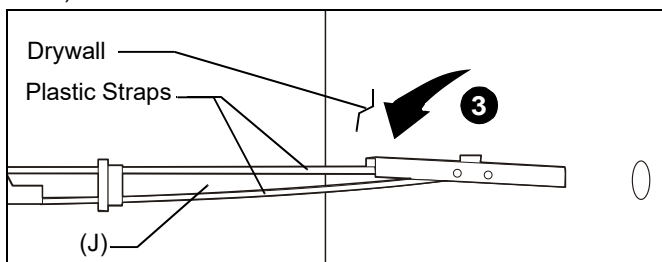

Figure 2
3. Hold metal channel on 1/4"-20 anchor (J) flat alongside plastic straps and slide channel through hole. (See Figure 2)